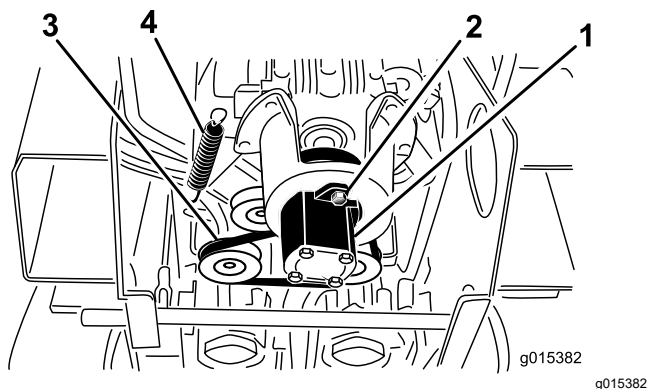

Figure 50
5. Loosen the 2 pump bolts (Figure 50).
6. Twist the pump counterclockwise and allow it to drop down away from the pulley (Figure 50).
7. Using a spring puller (contact your Authorized Service Dealer) or stiff metal hook, pull the end of the idler pulley spring off the spring bolt to release tension on the belt (Figure 50).